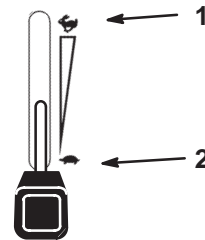

Figure 16
5. Move the throttle control to the Fast position before starting a cold engine (Fig. 16).
1. Push the PTO to off (Fig. 16).
2. Move the throttle lever midway between the slow and fast positions (Fig. 16).